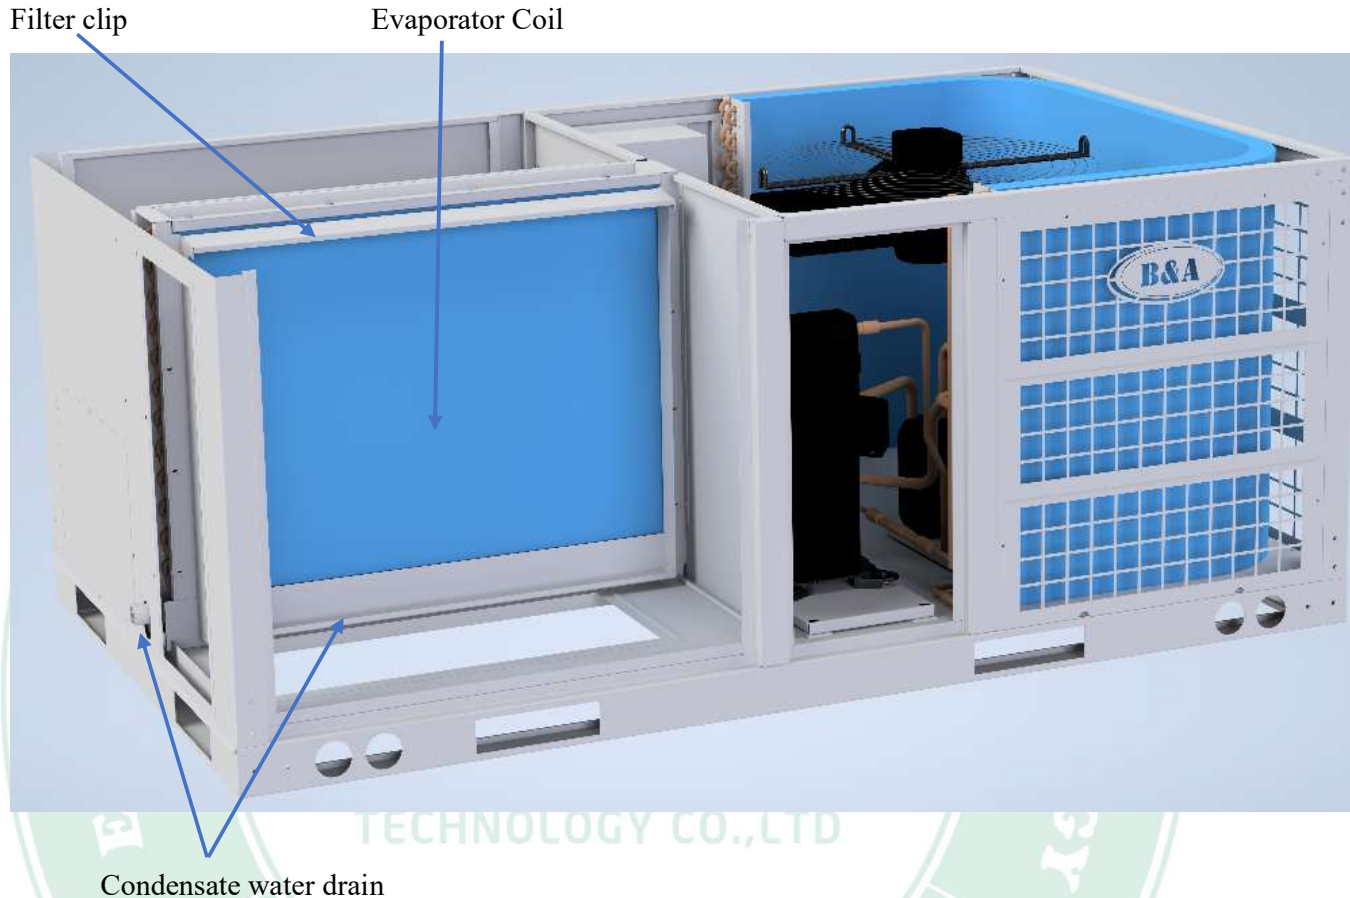

Fig. 19 — Evaporator Coil Sections
1. Turn unit power off. Install lockout tag. Remove filter access panel. See Fig. 19